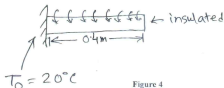

Figure 4
- b) A 6m rod shown in Figure 4 with constant cross sectional area 0.5m^2 , is having thermal generation $S(x) = x^2/5$ across its length. Boundary conditions given in the figure. Thermal conductivity for the rod is $K = 2$ J/m²·C·s. Compute the weak form (quadratic solution) for the distribution of Temperature in the rod, $T(x)$